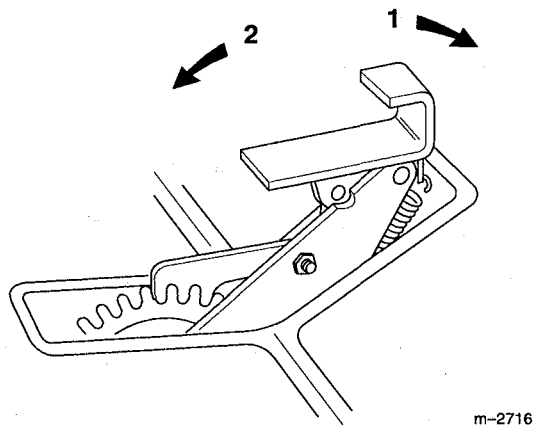

Figure 8
The attachment lift (Fig. 8) is used to raise and lower attachments.
1. Place your foot on the lift pedal (Fig. 8).
2. Push down with your foot, release the lock by rocking the pedal with your heel, then release foot pressure to lower the attachment lift (Fig. 8). Remove your foot to hold the attachment in the down, or desired position.